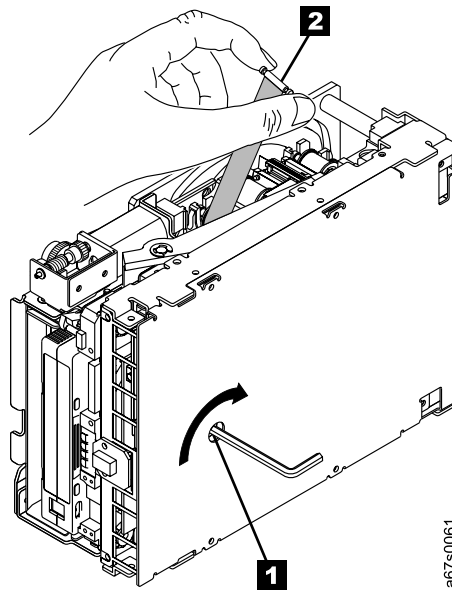

Figure 32. Rewinding the leader pin into the tape cartridge
3. If necessary, use needle-nose pliers to grasp the end of the leader pin and pull it out of the cartridge so that you can grip it with your fingers (see **1** in Figure 32).